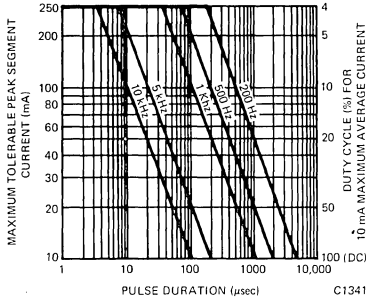

Fig. 1. Maximum Tolerable Peak Segment Current vs. Pulse Duration
- The corresponding maximum peak current per segment from Fig. 1 is 250 mA. The intersection of 500 HZ and 62.5  $\mu\text{s}$  pulse duration lies in the <4% duty cycle condition.  $I_{\text{AVG}} = 250 \text{ mA} \times .03125 = 7.8 \text{ mA}$  which is the maximum average current for operation at  $T_A$  (ambient temperature) =  $25^\circ\text{C}$ .